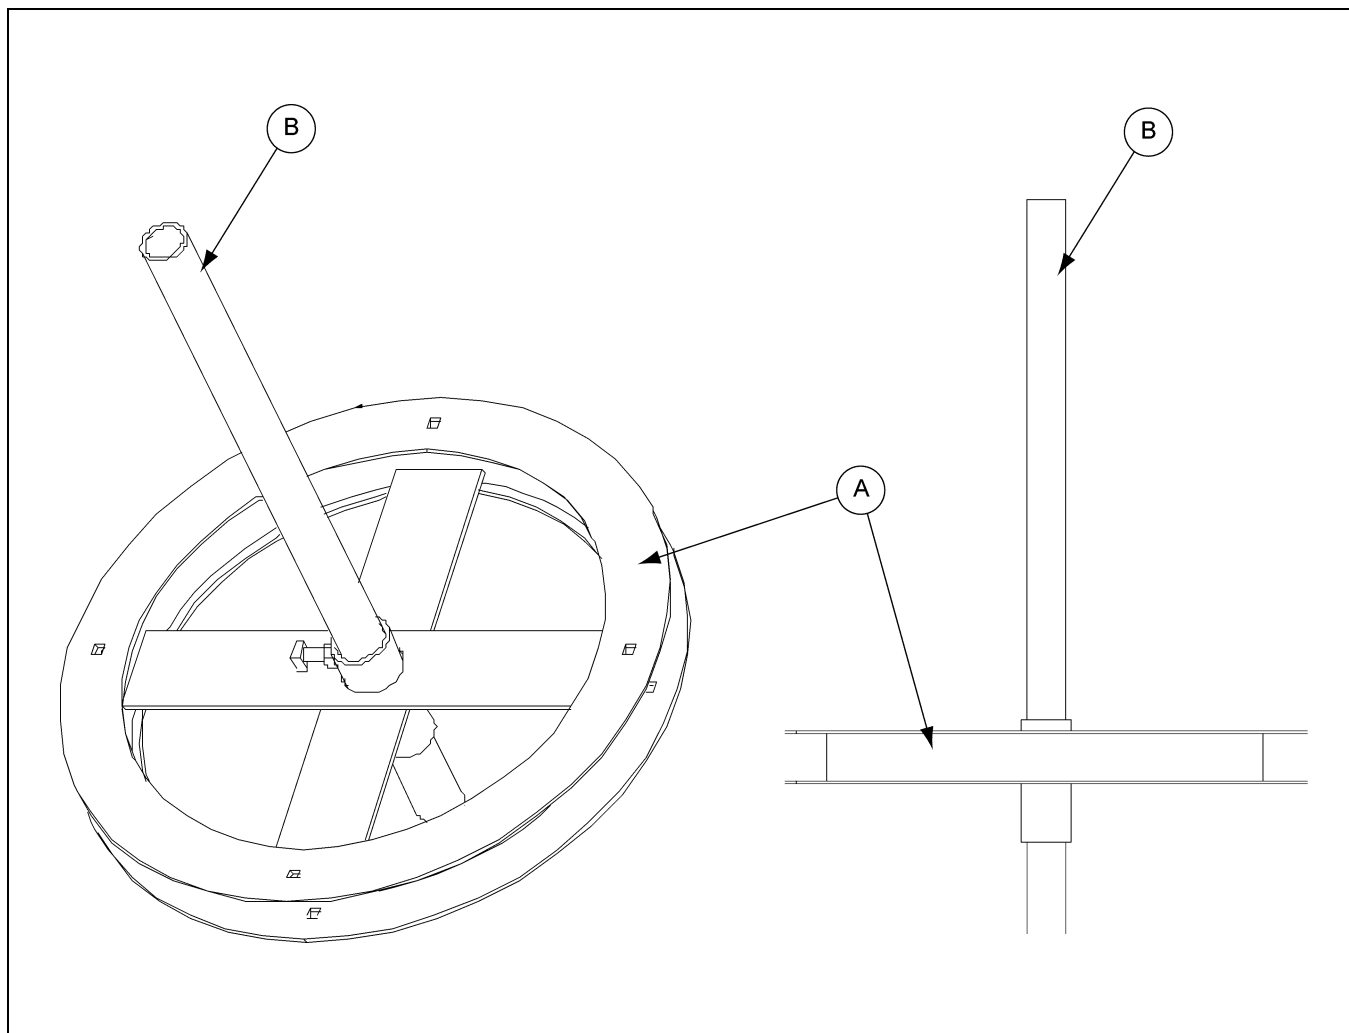

Figure 5A
Once the distributor has been installed the installation of the cable controls can begin. The first piece to install is the cable wheel (A). This cable wheel mounts to the control pipe (B) coming from the bottom of the distributor. This cable wheel needs to be placed on the pipe far enough not to interfere with the threads on the end of the distributor control pipe. (See Figure 5A.) Once the cable wheel is in the desired location, tighten the two (2) 3/8" set screws.